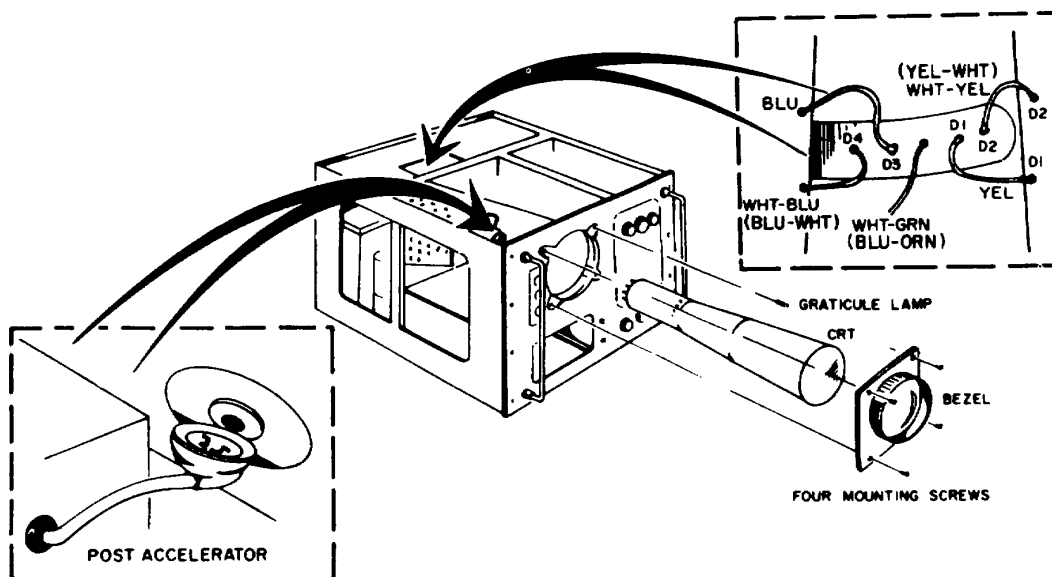

Figure 5-7. Removal of Cathode-Ray Tube
c. REMOVAL OF CATHODE RAY TUBE. To remove the CRT, refer to figure 5-7 and proceed as follows:
- (1) Remove the oscilloscope from cabinet, and place chassis upright.
- (2) Remove 5 leads from neck of CRT.
- (3) Loosen two screws holding clamp on CRT base. Do not remove screws or clamp.
- (4) Remove post-accelerator cap from CRT (see figure 5-7) by prying.
- (5) Remove four mounting screws from bezel and remove bezel, filter and graticule.
- (6) Slide CRT slightly forward and loosen rubber gaskets between the clamp and CRT.
- (7) Remove socket from CRT base.
- (8) Slide CRT forward out of instrument, keeping one hand on front face of the CRT.